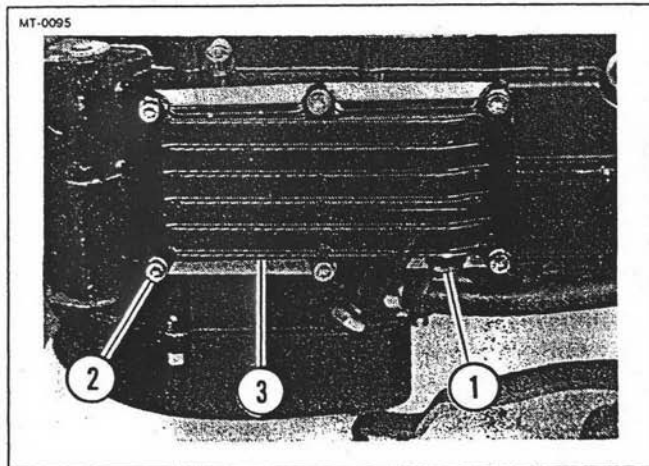

Figure 3-9. Sieve Cover Magnetic Plug
3. Using an 8 mm hex key and a 17 mm box wrench, remove self-locking nut (2), flat washer, socket head bolt (3), flat washer, and sump guard (4). Discard self-locking nut.
4. See Figure 3-9. Using a 6 mm hex key, remove magnetic plug (1) from engine sieve cover.
5. Using a 5 mm hex key, remove socket head screws (2) and sieve cover (3).
3. See Figure 3-9. Position cover (3) onto crankcase and secure with socket head screws (2). Tighten screws with a 5 mm hex key.
4. See Figure 3-9. Using a 6 mm hex key, install magnetic drain plug (1) into sieve cover (3).